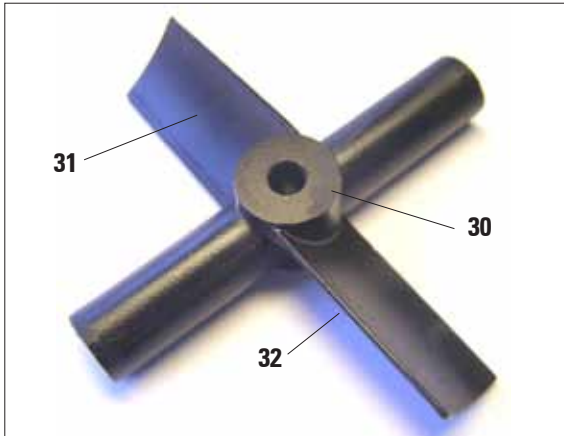

Fig. 7
- Unpack the magnetic stirrer (Fig. 7, 30) and insert it into the retort.
The magnetic stirrer must be inserted such that the outer curvature (32) of the two stirrer blades (31) faces downwards! (Fig. 7)